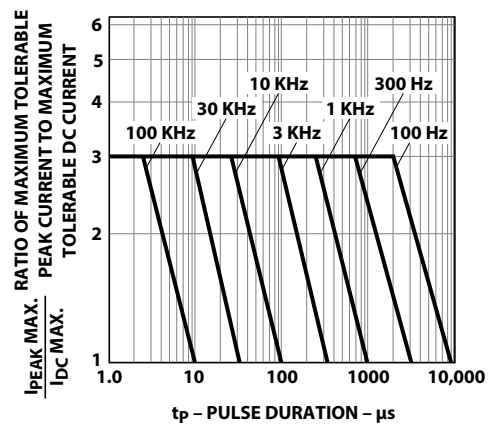

Figure 5. Maximum tolerable peak current vs. pulse duration. (I_{DC} Max. as per maximum ratings.)
1. See Figure 5 to establish pulsed operating conditions.